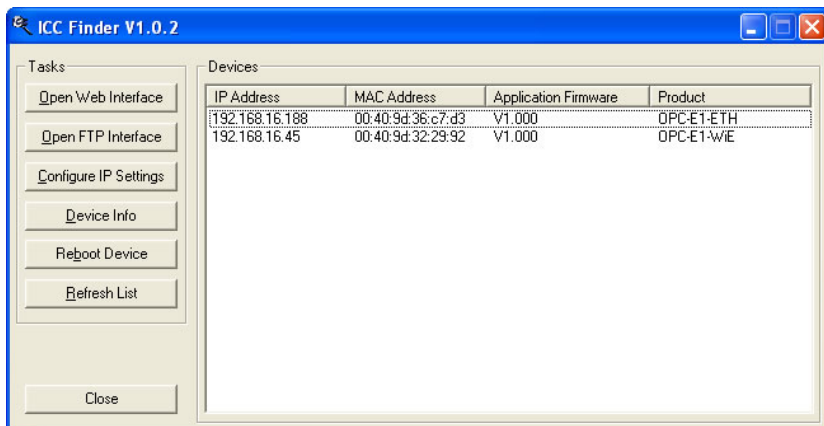

Figure 11: ICC Finder Discovery Utility
The “ICC Finder” application is a simple Windows PC program (just a single .exe file, no installations, DLL’s etc.), which when executed discovers all ICC communication interfaces on the current Ethernet subnet, regardless of whether or not their network parameters are currently compatible with the subnet upon which they reside. Refer to Figure 11.
3. The discovery utility scans the network for ICC devices and then lists each device's **IP Address**, **MAC Address**, **Firmware Version** and **Product Name**. Refer to Figure 11 on page 23. Identify your device by its unique **MAC address** (printed on a label on the top of the Ethernet network jack).